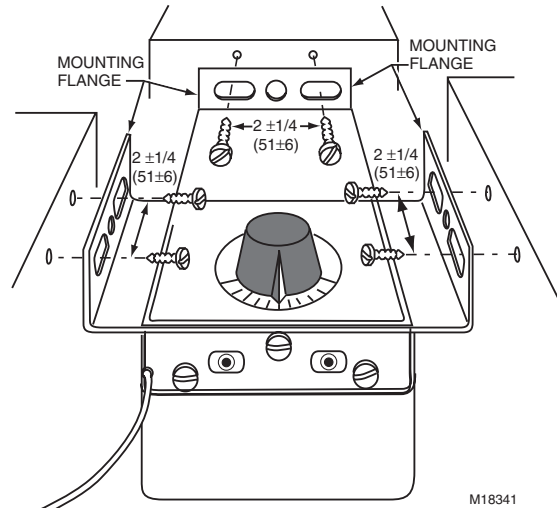

Fig. 4. Alternate locations for mounting screws. Dimensions are in in. (mm).
1. Hold the thermostat in place and mark screw hole centers. See Fig. 4. Punch or drill the pilot holes for the sheet metal screws.